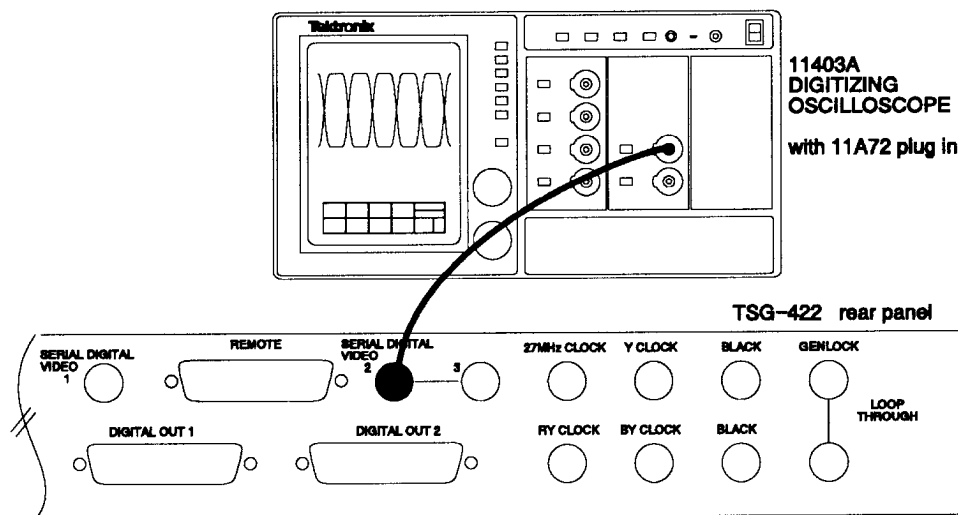

Fig. A-7.
- d. In the **WAVEFORM HORIZONTAL DESC** menu, set the **Display Type** to: **VARIABLE PERSISTENT**. This adjustment should result in the outline of the eye pattern displayed on the screen. The eye pattern should be similar to Fig. A-7.